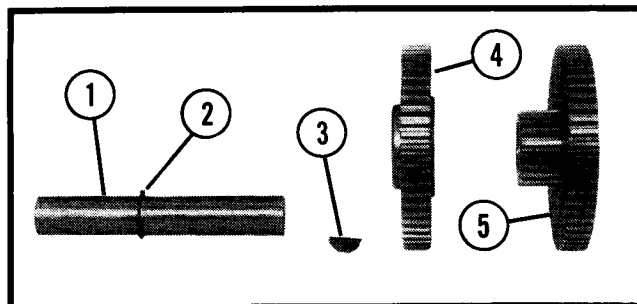

Figure 29. Output Shaft
10. Remove the gears and key from the output shaft (See Figure 29).